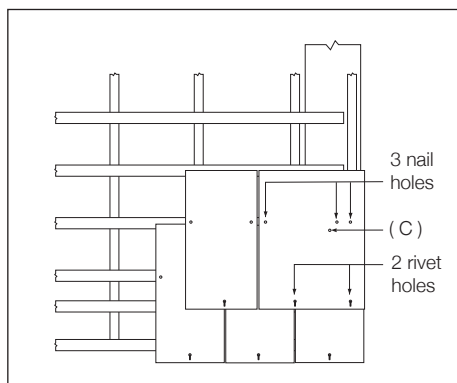

Fig. 5 – Using slate-and-a-half to break bond
6. At the verge, install the first full length slate-and-a-half slate, drilling 3 nail holes on the batten line and two additional holes for the copper disc rivets (Fig. 5).
For remaining courses where single and slate-and-a-half slates are used, a third copper disc rivet hole is required to accommodate the rivet for the next single width verge slate (at point C, Fig. 5).